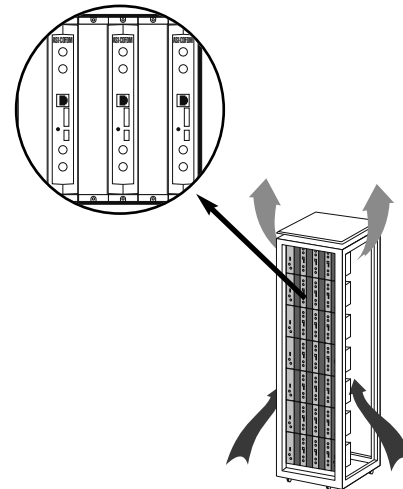

fig. 6
When the rack is located in an area where the temperature is below 40°C, it is advisable to install it in such a way that it is left totally open, in other words, without adding the side doors thus facilitating the ventilation of the units with the option of placing the blank plates ref. 5073, fig. 6.